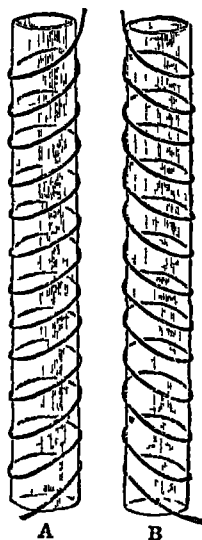

FIG 231
**Spirals or Helixes**—A right-handed spiral or helix is formed by holding a tube upright, and coiling downward from right to left (A, fig 231). In the left-hand spiral or helix the tube is held in a similar position, but the coiling is from left to right as you look at it, B